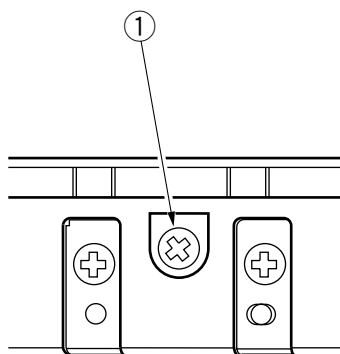

Figure 5-713
Turn the screw ① shown in Figure 5-713 to adjust the position of the cassette hook plate.